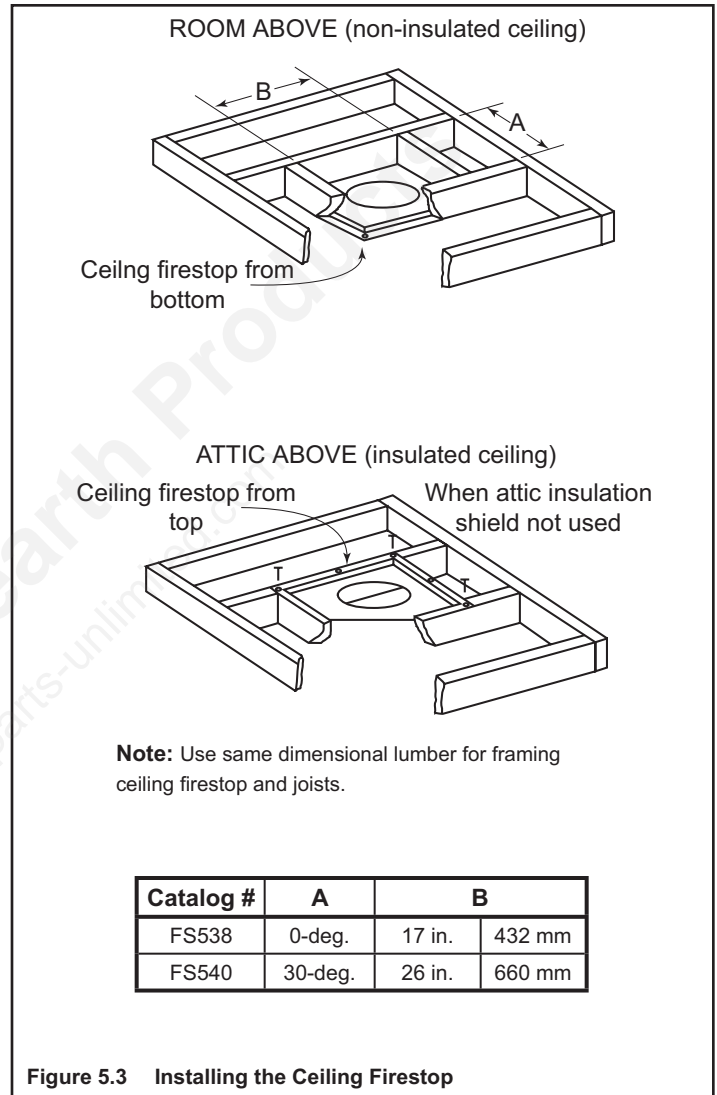

Figure 5.3 Installing the Ceiling Firestop
**Example:** Your “A” dimension from Figure 5.3 is 14-1/2 in. (368 mm). Using Table 5.2 the dimension closest to, but not less than 14-1/2 in. (368 mm) is 14-5/8 in. (371 mm) using a 30° offset/return. It is then determined from the table that you would need 33 in. (838 mm) (Dimension “B”) between the offset and return. The chimney components that best fit your application are two SL412s.
- Mark and cut an opening in the ceiling for the ceiling firestop being used. See Figure 5.3.